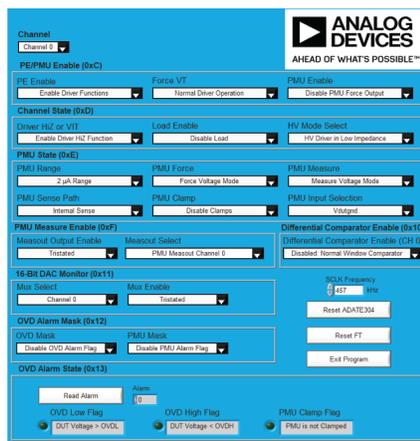

Figure 12. Mode Selection Controls Panel
- ▶ The mode selection controls panel located on the right side of the GUI (see Figure 12), allows the user to configure the settings of the ADATE304.
The mode selection controls panel allows the modification of the settings of the ADATE304 by letting the user know which register is being written to, and what specific setting is being changed (see Figure 12). Alarms can also be read from this panel. At the top left of the GUI, **Channel** is a drop-down box that controls which channel the mode selection control section is sending commands to. **Single Write** must be used to write to both channels at the same time. The mode selection controls panel of the GUI places the DCL in its various states as described in the ADATE304 specification. See the ADATE304 data sheet for a detailed description of the registers.